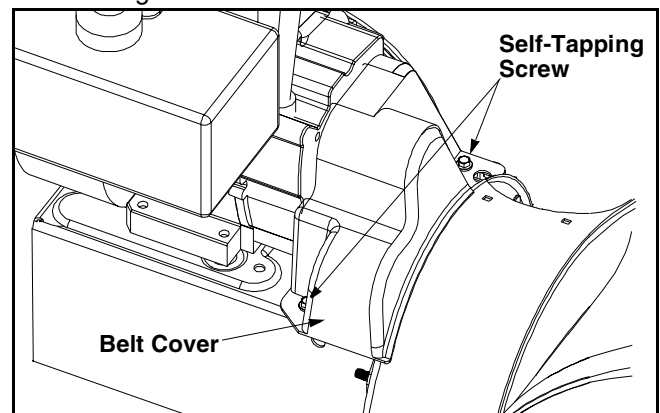

Figure 16
- Remove the plastic belt cover at the front of the engine by removing the two self-tapping screws. See Figure 16.